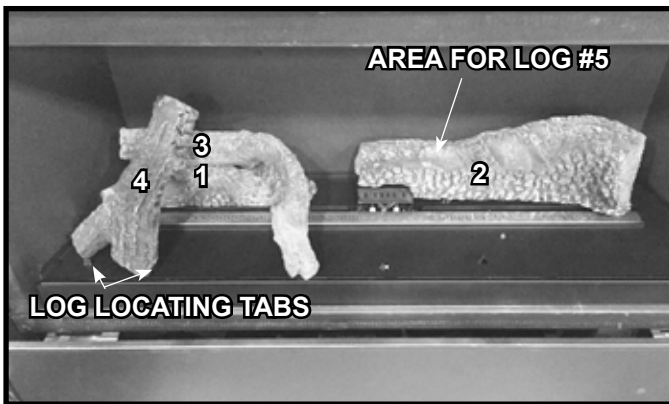
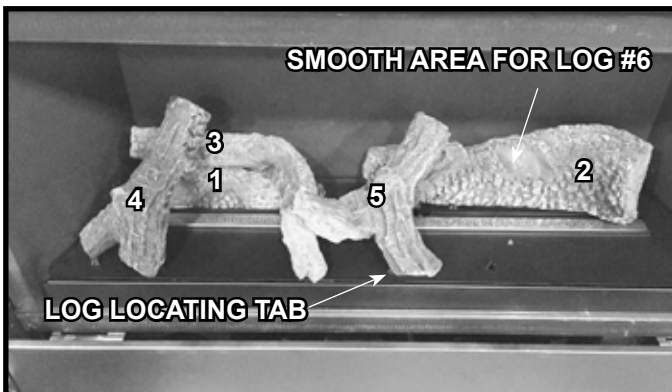

Figure 7 Place Log #4
Figure 8 Place Log #5
7. Install Log #4 by placing the forked end down onto the base pan and leaning the top end of Log #4 back so that it is resting on Log #3. The forked end should contact two placement tabs. See Figure 7.
8. Install Log #5 by placing the forked end down as shown in Figure 8. One side of the fork will rest on Log #3 and the other side of the fork will touch the designated log placement tab. The other end of the log rests on the smooth area on Log #2 noted in Figure 7. See Figure 8.
9. Install Log #6 by placing the right end of the log against the right log tab. The left end of the log will contact the back side of the tab. Log will lay on smooth area of Log #2. See Figure 8.